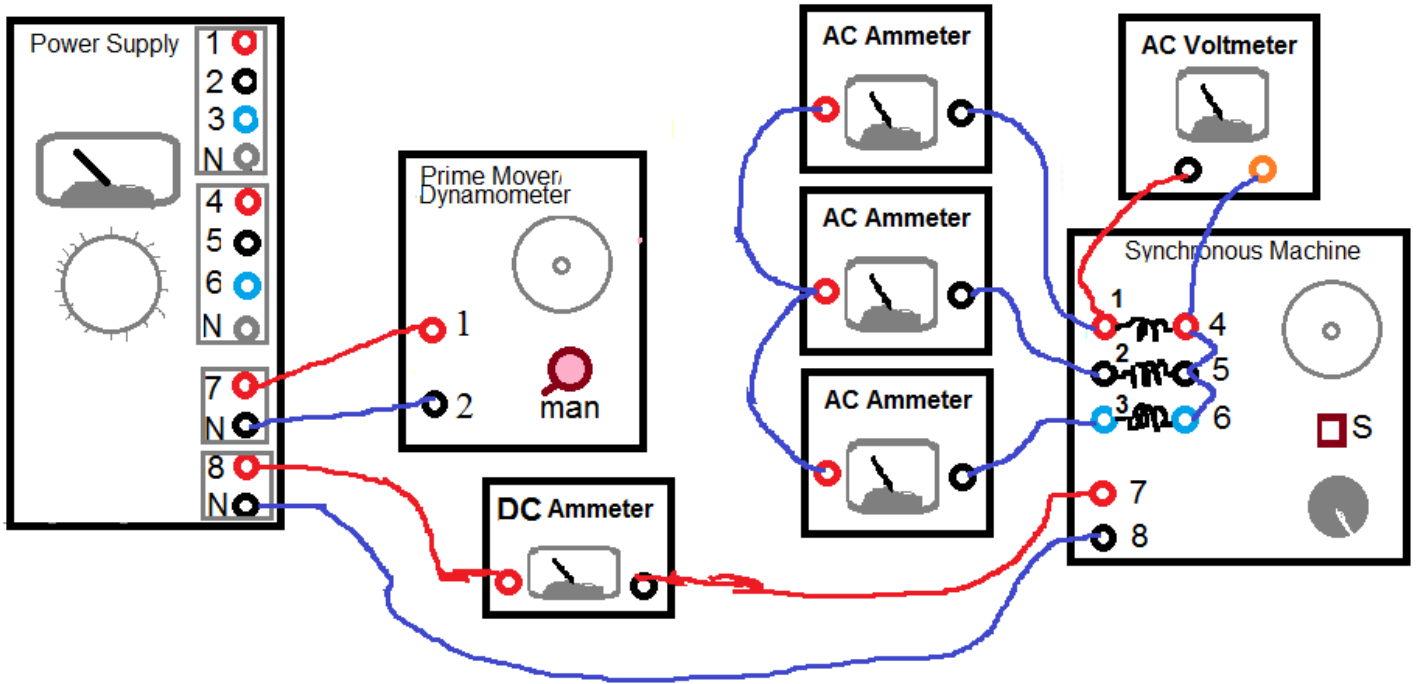

Fig. 7-4
- 7-8. Short circuit the stator terminals through three AC ammeters as shown in Fig 7-4.